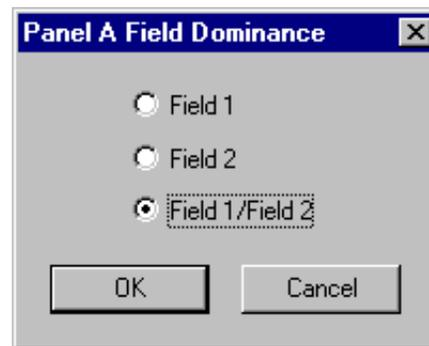

Figure 91. Field Dominance dialog box
1. Choose **Options | Field Dominance**. The Field Dominance dialog box appears (Figure 91).